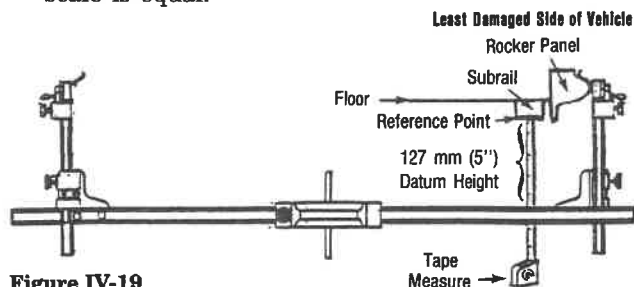

Figure IV-19
- 6) Remeasure the distance from the reference point on the least damaged side of the vehicle to the top of the horizontal bar. (See Figure IV-19.) If the top of the bar is not at datum height – in this example 127 mm (5 inches) – repeat the procedure until the desired datum height is achieved and the height of each gauge scale is equal.